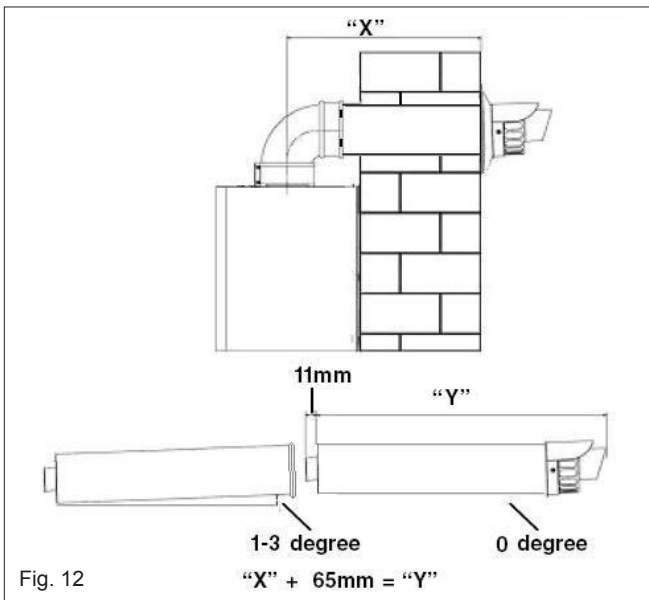

Fig. 12
Using the template provided (A), mark and drill a 125mm hole for the passage of the flue pipe. Each horizontal terminal, incorporates an incline on the inner (60mm) pipe; this enables the terminal to be installed on a level plane. However any extended horizontal flue runs must incorporate a 3-degree fall-back from the flue terminal towards the appliance (see fig. 12). The fixing holes for the wall-mounting bracket should now be drilled and plugged, an appropriate type and quantity of fixing should be used to ensure that the bracket is mounted securely. Once the bracket has been secured to the wall, mount the appliance onto the bracket.
Carefully measure the distance from the centre of the appliance flue outlet to the edge of the finished outside wall (dimension X). Add 65mm to dimension X to give you Dimension Y (see fig 12). Measure dimension Y from the terminal end of the concentric flue pipe and cut off the excess ensuring any burrs are removed. Pass the concentric flue pipe through the previously drilled hole. Fit the flue bend to the boiler flue outlet and insert the concentric flue pipe into the flue bend ensuring the correct seal is made. Using the clamp, gasket, and screws supplied, secure the flue bend to the appliance flue spigot.